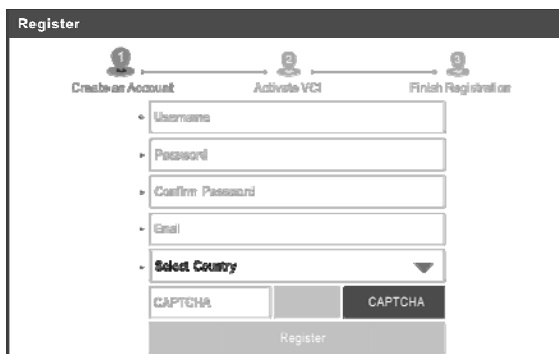

Fig. 4-3
a) Create App Account: In Fig. 4-3, fill in the information in each field (Items with \* must be filled). After inputting, tap “Register”, a screen similar to the following will appear: